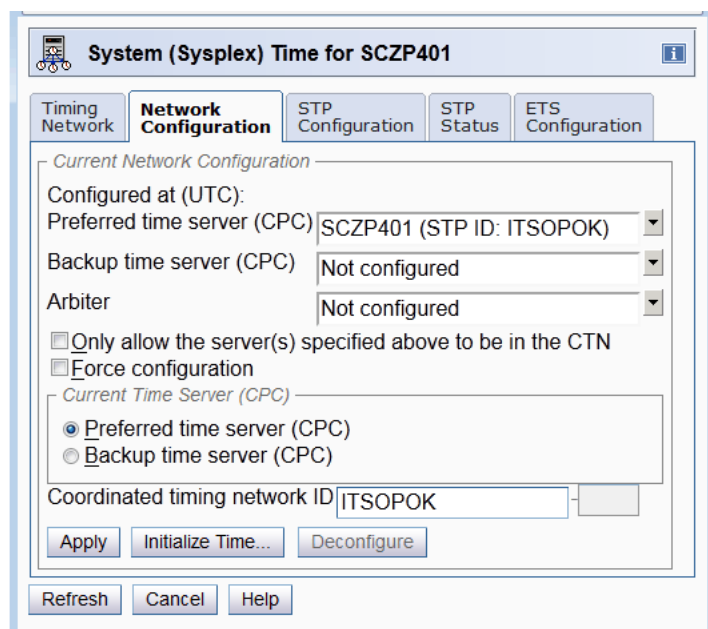

Figure 3-37 Assigning PTS for the new single-server STP-only CTN
1. Assign the PTS role from the drop-down menu. Note that the radio button in the Current Time Server (CPC) section (Figure 3-37) points to the PTS. Because the PTS is the only time server assigned, it has to be the CTS.